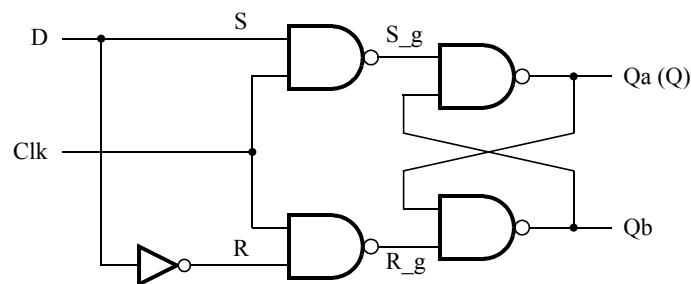
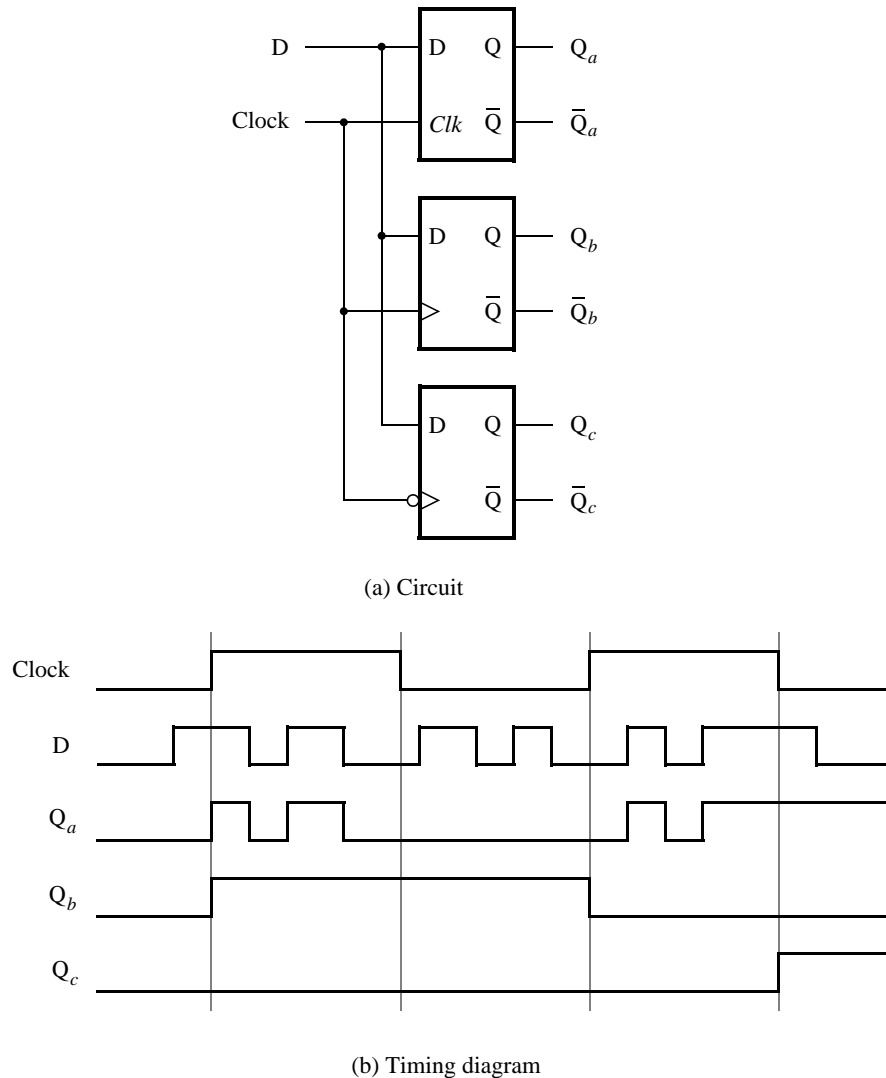

Figure 5: Circuit for a gated D latch.
Figure 7: Circuit and waveforms for Part IV.
Figure 5 shows the circuit for a gated D latch.
Figure 7 shows a circuit with three different storage elements: a gated D latch, a positive-edge triggered D flip-flop, and a negative-edge triggered D flip-flop.
2. Write a VHDL file that instantiates the three storage elements. For this part you should no longer use the KEEP directive (that is, the VHDL ATTRIBUTE statement) from Parts I to III. Figure 8 gives a behavioral style of VHDL code that specifies the gated D latch in Figure 5. This latch can be implemented in one 4-input lookup table. Use a similar style of code to specify the flip-flops in Figure 7.
4. Create a Vector Waveform File (.vwf) that specifies the inputs and outputs of the circuit. Draw the inputs *D* and *Clock* as indicated in Figure 7. Use functional simulation to obtain the three output signals. Observe the different behavior of the three storage elements.